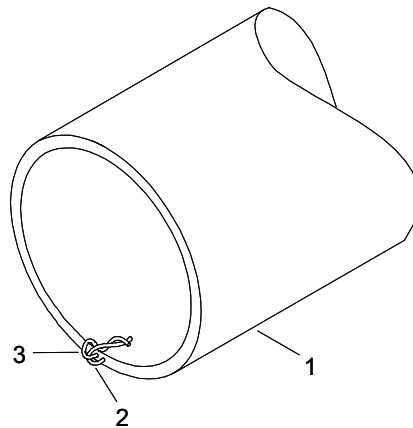

Figure 29. Hose Assembly Repair.
1. Place drip pan under hose assembly (Figure 29, Item 1) to be repaired.
2. Inspect hose assembly (Figure 29, Item 1) to identify the extent of damage to the hose assembly (Figure 29, Item 1).
3. Using a hacksaw, remove the damaged portion of the hose assembly (Figure 29, Item 1) by cutting the hose assembly (Figure 29, Item 1) on both sides of the damaged area. Discard damaged hose (Figure 29, Item 1).
4. Identify the metal wire coil (Figure 29, Item 2).
5. Using needle nose pliers, pull the metal wire coil (Figure 29, Item 2) approximately $\frac{1}{2}$ in. out of the hose assembly (Figure 29, Item 1) so the metal wire coil (Figure 29, Item 2) is exposed.
6. Using needle nose pliers cut a piece of copper wire (Figure 29, Item 3) approximately 1-1/2 inches long.
7. Insert and center the piece of copper wire (Figure 29, Item 3) under the metal wire coil and into the hose assembly (Figure 29, Item 1) approximately $\frac{1}{2}$ in. away from the end of the metal wire (Figure 29, Item 2), to ensure copper wire will not slide off.
8. Using needle nose pliers, wrap the copper wire (Figure 29, Item 3) around the metal wire coil (Figure 29, Item 2) together, forming a pigtail.
9. Using needle nose pliers, carefully bend the copper wire (Figure 29, Item 2) inside the hose assembly (Figure 29, Item 1) so that it will contact the hose splice when assembled.